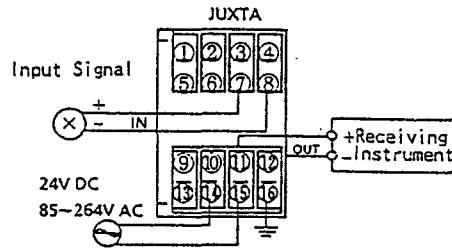

Fig.10 Wiring of Calibration Equipment (Soft Variable Type)
- ① Connect each equipment as shown in Figs. 10 and 11.
- ② Input/output characteristic check